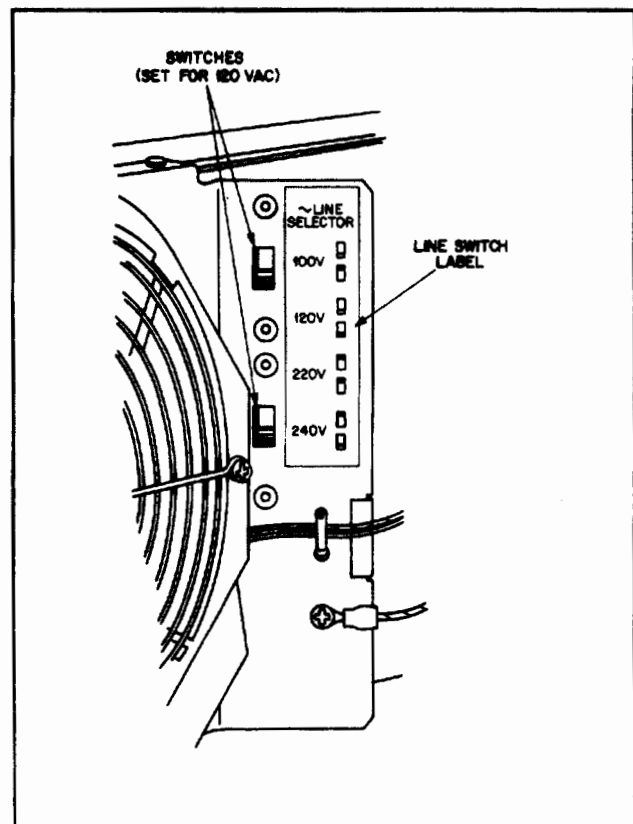

Figure 2-6. Line Voltage Selector Switch.
A-C Line Voltage Selection. The mainframe is designed to accommodate mains voltages from 100 to 240 Vac. There are labels located adjacent to the a-c input socket (see Figure 2-6). Make certain that the label with the factory check mark corresponds to your nominal line voltage. Skip this procedure if the label agrees with your line voltage.
- b. Two line voltage select switches are located on the rear of the panel, just to the right of the fan (see Figure 2-6). A Line Selector chart next to the switches shows how to set them for 100 V, 120 V, 220 V, or 240 V nominal input. Set the switches to the proper voltage.